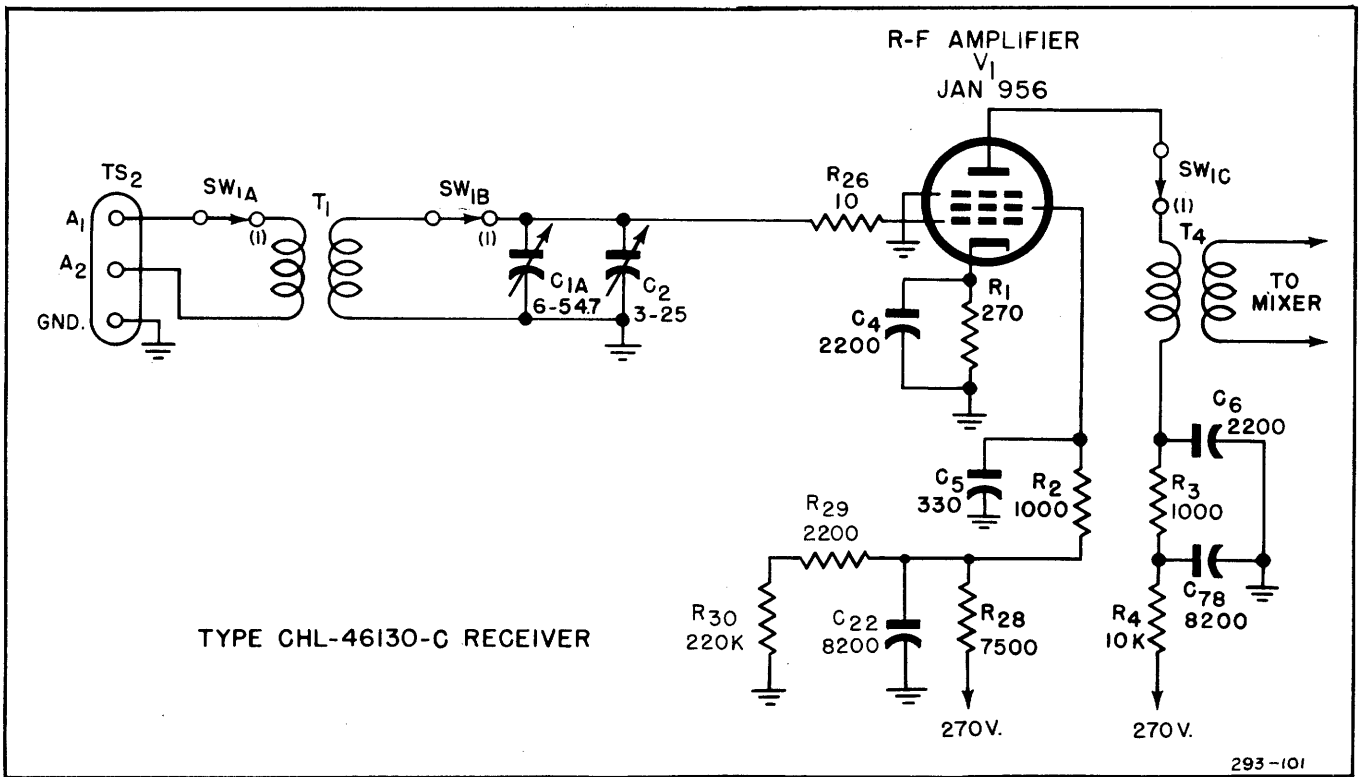

Figure 2-2: Type CHL-36130-C Receiver, R-F Stage Simplified Schematic Diagram.
(1) R-F AMPLIFIER STAGE.—Simplified schematic diagrams of the R-F Amplifier stage for each of the receiver chassis are shown in Figures 2-2 and 2-3. The signal picked up by the antenna is coupled through the r-f transformer (T1) through the parasitic suppressor resistor (R26) to the grid of the r-f amplifier tube (V1). The secondary of the transformer (T1) is tuned by a section of the main tuning capacitor (C1A). The "ANTENNA" capacitor (C2) is connected in parallel with the tuning capacitor section, and provides a front-panel control to compensate for variations in circuit capacitance due to antenna loading from band to band. In the Type CHL-46130-D Radio Receiver, an additional resistance-capacitance network (R72 C80) is inserted in series with the grid lead in order to enable the prompt recovery of this stage from the blanking action. Note also, that a blanking jack (SO3) is provided on the Type CHL-46130-D chassis. This jack is connected in the screen voltage lead to the r-f tube (V1) at such a point that it may be grounded to remove screen voltage from the tube but still will not short-circuit the power supply. The minimum-bias resistor (R1) is included to maintain a minimum grid bias voltage for the tube when no AVC voltage is being applied. The amplified signal is coupled to the succeeding stage through the second r-f transformer (T4). The plate return lead of this transformer contains the r-f filter network (C6, C78 and R3) to prevent leakage of radio-frequency energy from the stage.